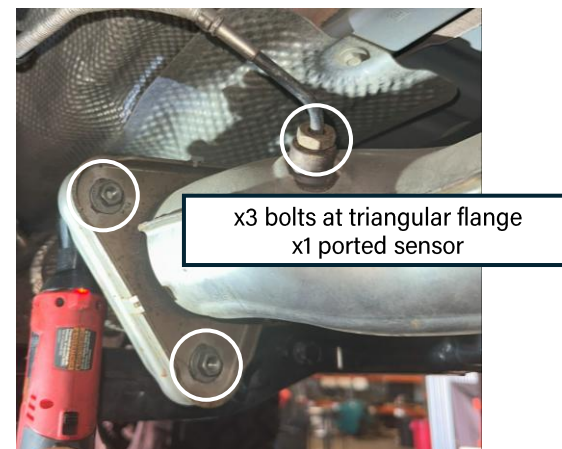

Figure 4a: Flange to be removed and sensor
- ☐ Unbolt the x3 nuts holding the exhaust flange at the rear section (Figure 4a)